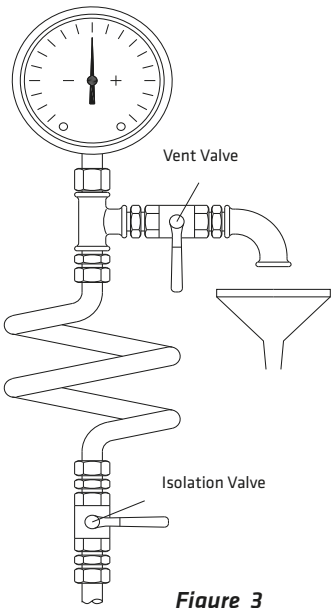

Figure 3
- Pressure and vacuum gauges must be properly anchored and connected at the measuring points located on the pump flanges by means of or on the pipes close to the flanges approximately 8 mm diameter tubing with pig tail configuration to lessen pressure fluctuation. For safety purposes isolating and vent valves should be fitted before the gauges (**Figure 3 and 4**).